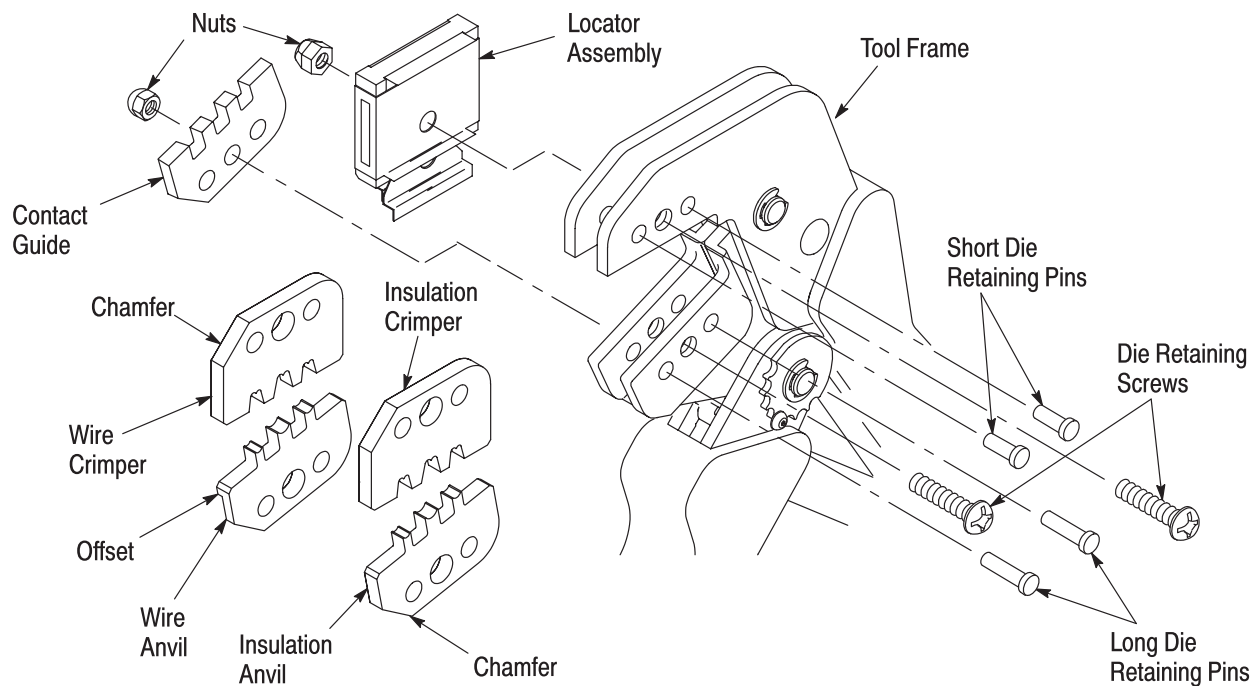

Figure 2
3. INSTALLATION AND REMOVAL OF DIE SET, LOCATOR ASSEMBLY, AND CONTACT GUIDE (Figure 2)